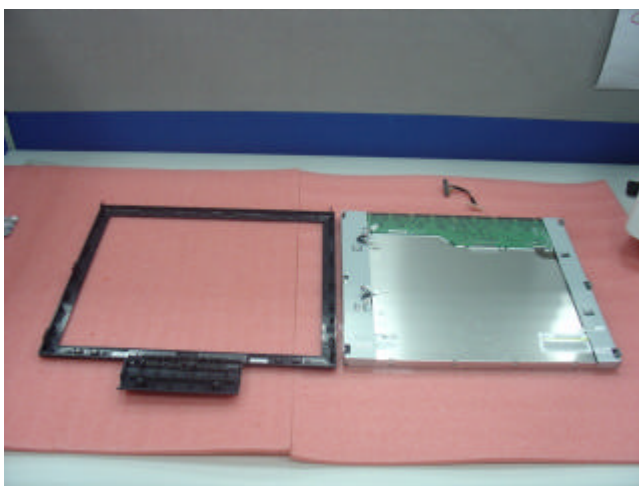

Figure 19
1.15 Separate the bezel & panel (with BKT) & remove the cable on panel (Figure 19)